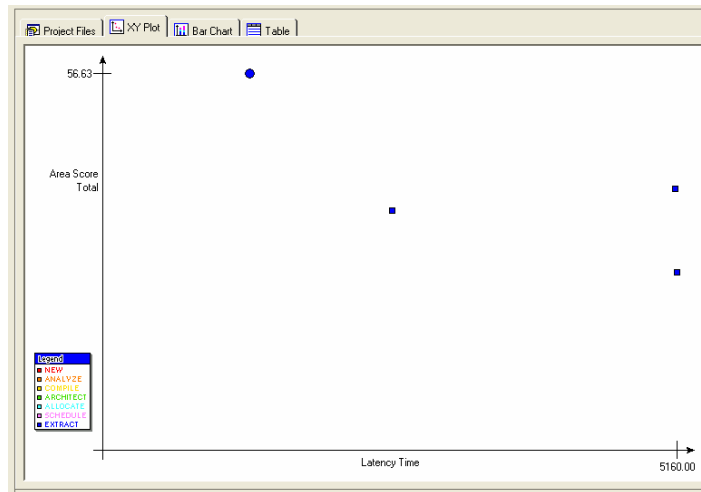

Figure 10 Table, Bar Chart, and XY View
- ✓ Look at the table, bar chart, and XY plot views in the design center (Figure 10).